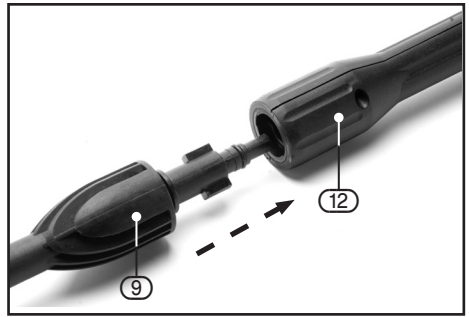
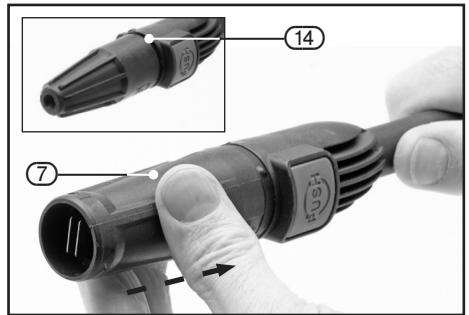

FIG.5
FIG.7
8.2 ATTACHING THE LANCE – FIGS.5 – 6
- Connect the lance (9) to the trigger assembly section (12) by pushing in the bayonet fitting and turning anti-clockwise 45° to lock in place.
8.3 ATTACHING THE NOZZLES TO THE LANCE – FIGS.7 – 8
- To connect either the spray nozzle (7) or turbo nozzle (14) to the lance (9), push-fit the nozzle into the end of the lance until it clicks into place. To remove, press the release button (9.1) on the lance to disconnect.